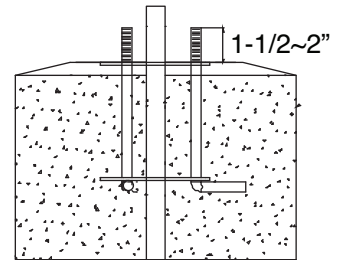

Fig. 4
3. Install three anchor bolts into concrete as per attached drawing, having at least 1-1/2~2" protruding from concrete with threads free and clear of debris and dirt. (**Fig 4**)